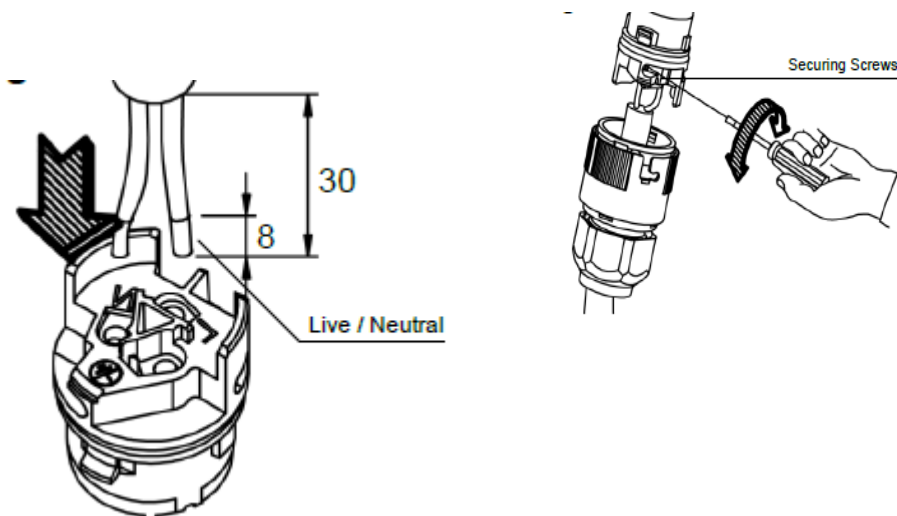

Fig. 1
2. Take the IP66 grommet and wire your cable into the screw terminals. (diameter= 9 to 12mm, 1.5 mm2, Core rubber Insulated ) (Fig 1).